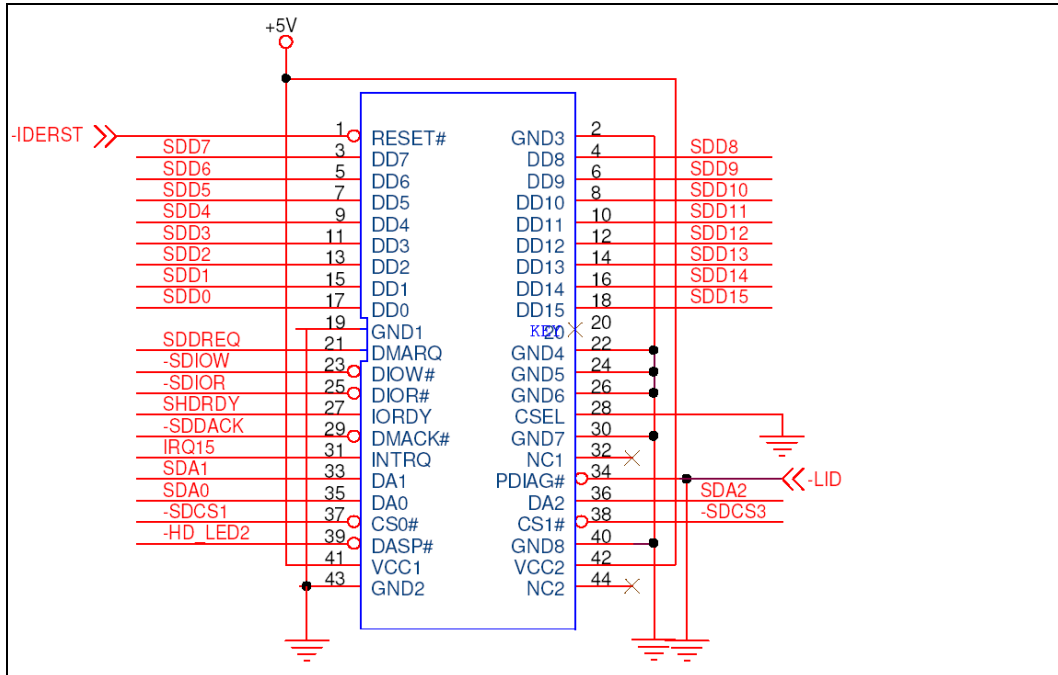

Figure 4-13: Secondary IDE Device Connector Locations
- CN Location:** See Figure 4-13